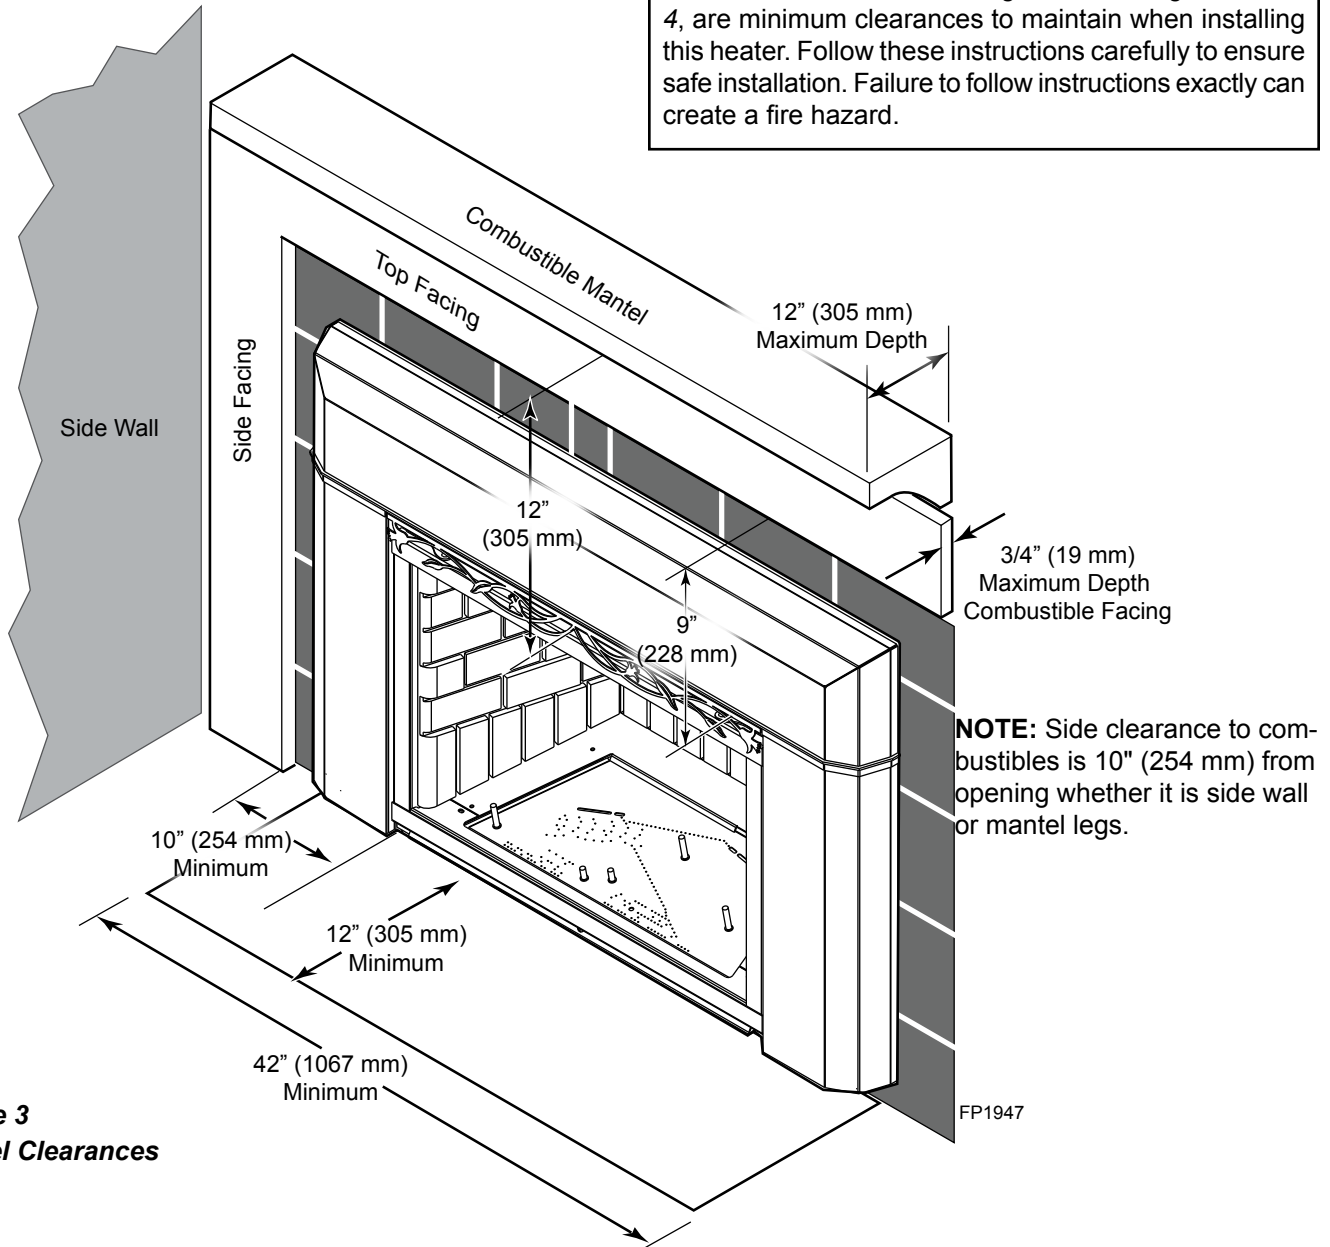

Figure 3
- Minimum clearances to combustibles, such as mantels, must be maintained. *Refer to Pages 8 and 9, Figures 3 and 4.*
The dimensions shown on *Pages 8 and 9, Figures 3 and 4*, are minimum clearances to maintain when installing this heater. Follow these instructions carefully to ensure safe installation. Failure to follow instructions exactly can create a fire hazard.